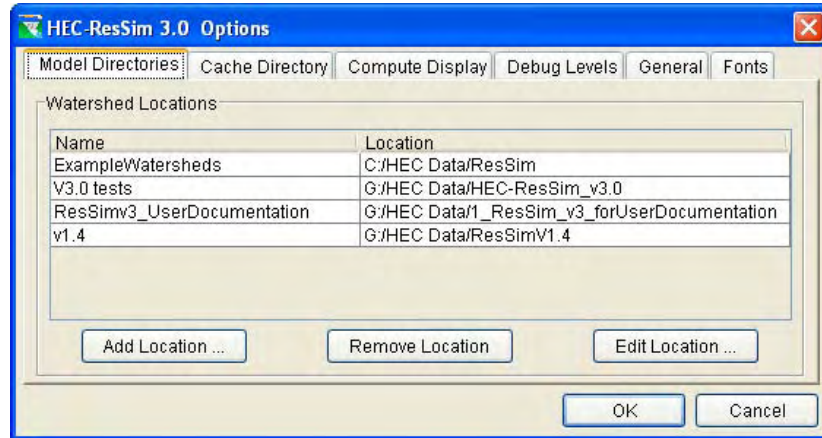

Figure 3.7 HEC-ResSim Options Dialog Box
1. From the **Tools** menu, select **Options**. The **HEC-ResSim Options** dialog box (Figure 3.7) will open.